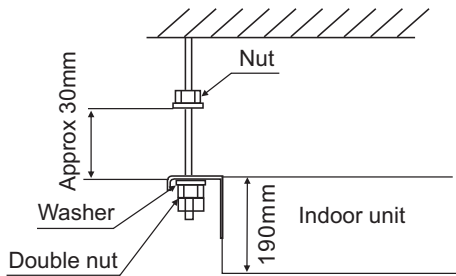

Fig.3.3.4
(1) How to fix the suspension bolts and the nuts as shown in the Fig 3.3.4, the nuts are fixed four bolts